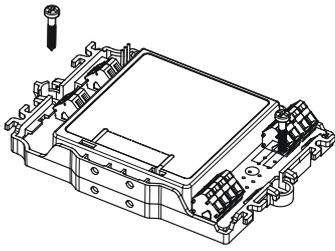

Fig. 2
- Installation directly in a switching cabinet or a control unit: mount the module on an even surface (Fig. 2) .
2. Fix it with two M4 screws (Fig. 2). Distance between installation holes: $118.0 \pm 1.0\text{mm}$.